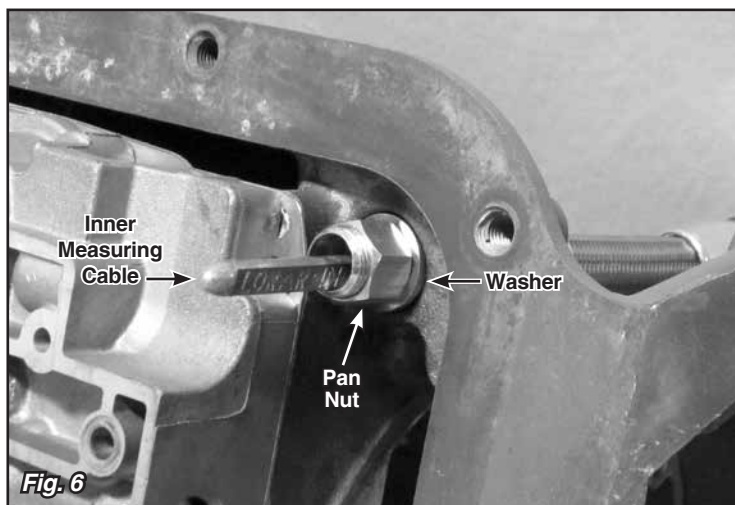

Fig. 6
Step 3: Remove the pan nut and washer from the pan fitting on the new Lokar dipstick. **Lubricate the rubber grommet with clean transmission fluid.** Install the pan fitting and rubber grommet into the transmission. (This should be a tight fit). Install the washer and the pan nut onto the pan fitting. Torque the pan nut to 20 inch-pounds. **Do Not Overtighten!** Fig. 6